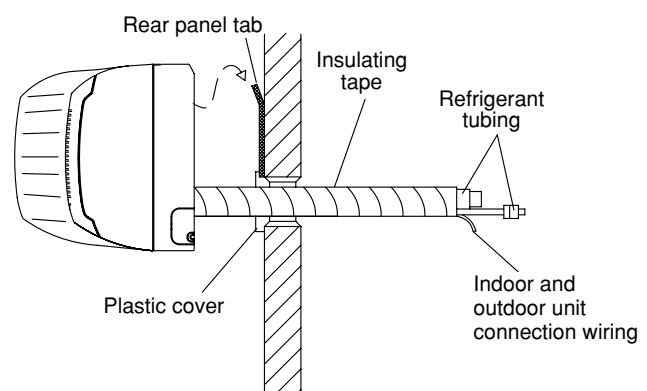

Fig. 3-76
- (1) Shape the refrigerant tubing so that it can easily go into the hole. (Fig. 3-76)
- (2) After performing a leak test, wrap both the refrigerant tubing and drain hose together with insulating tape.